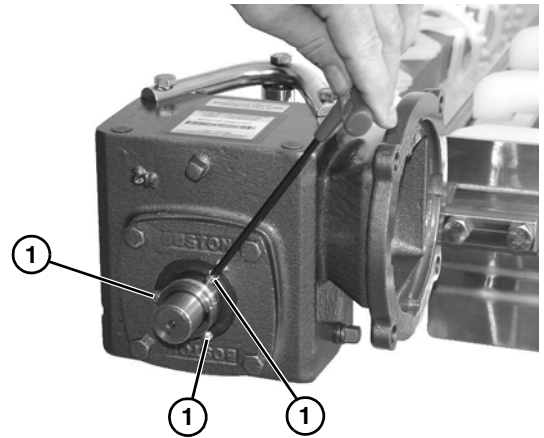

Figure 54
3. Using a hex wrench, loosen the allen head screws (**Figure 54, item 1**) that connect the gearmotor to the drive spindle. Repeat on opposite side of gearmotor.